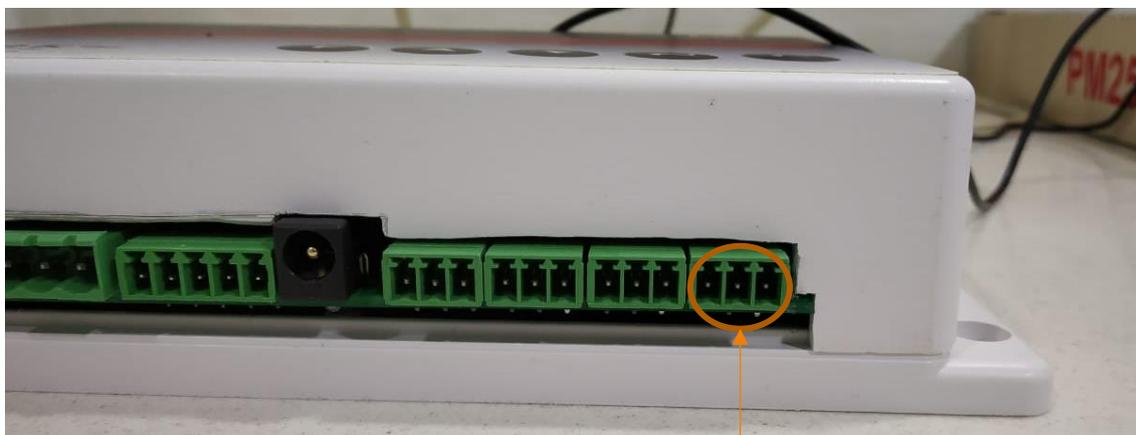

Figure 9 Sensor Wiring
6. All local electrical codes of practice must be followed when installing any instrumentation. For sensor wiring, all the sensor connectors are at the back side of the LmNet as shown in figure 9.